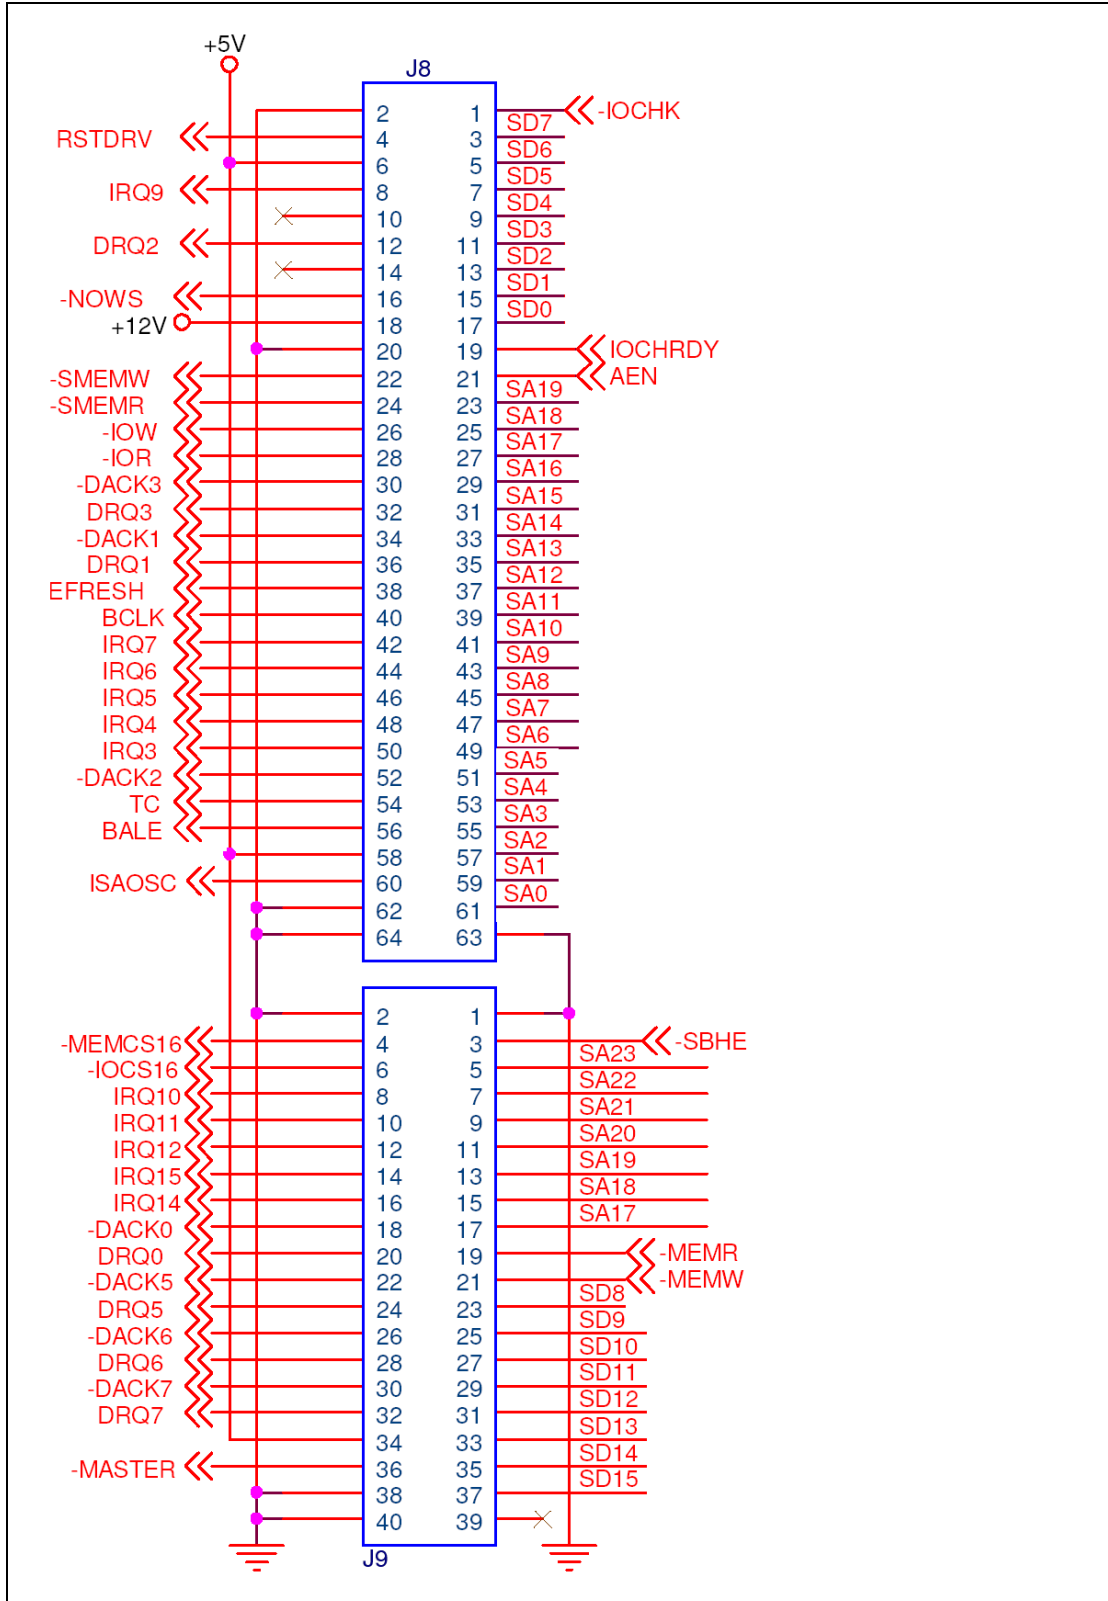

Figure 3-20: PC/104 Slot Location
- CN Location:** See **Figure 3-20**